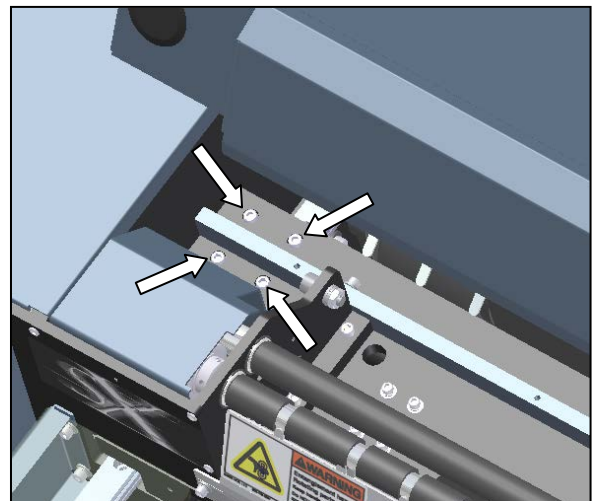

Figure 3-305. Left Linear Bearing Screws
- Remove the four mounting screws for the left linear bearing. Take the spacer from above the bearing. Slide to the rear of the machine along the rail to free the linear bearing from the machine (Figures 3-305 and 3-306).